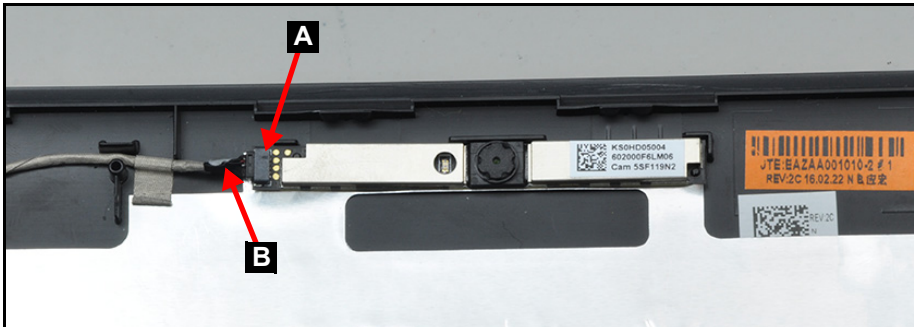

Figure 3-77. Camera Connector Location
4. Connect the camera cable (B) to the camera connector (A) (Figure 3-77).